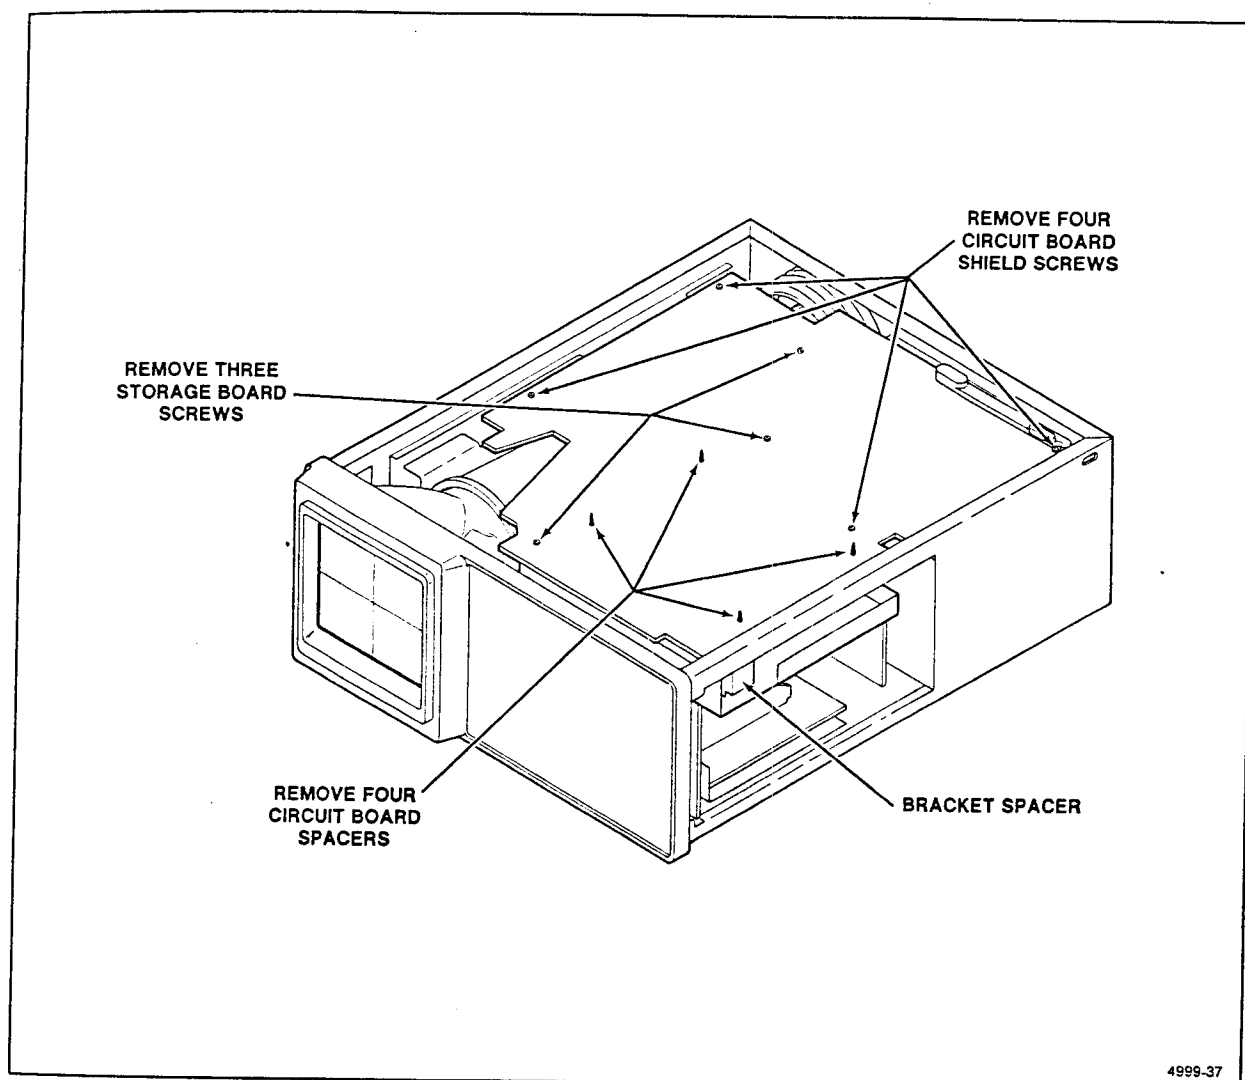

Figure 6-7. Location of screws and spacers on the Storage circuit board.
3. Remove three Storage circuit board screws that are identified by the etched words "Remove To Lift Board" (see Figure 6-7 for the location of the Storage board three screws).
6. Remove the four circuit board shield screws from the Storage circuit board (see Figure 6-7 for location of the four circuit board shield screws). Remove the two screws located on top of the Storage circuit board last.
7. Remove the Storage chassis from the instrument by lifting it up out of the bracket spacer. See Figure 6-7 for location of the bracket spacer.
9. With one hand firmly holding the Input/Output and Vector Generator circuit board assembly and with the other hand use a long-nose pliers on the top side to squeeze and push the four circuit board spacers through the holes in the Storage circuit board (see Figure 6-7 for location of the circuit board spacers). Place the Input/Output and Vector Generator circuit board assembly inside the instrument temporarily to be reinstalled later.